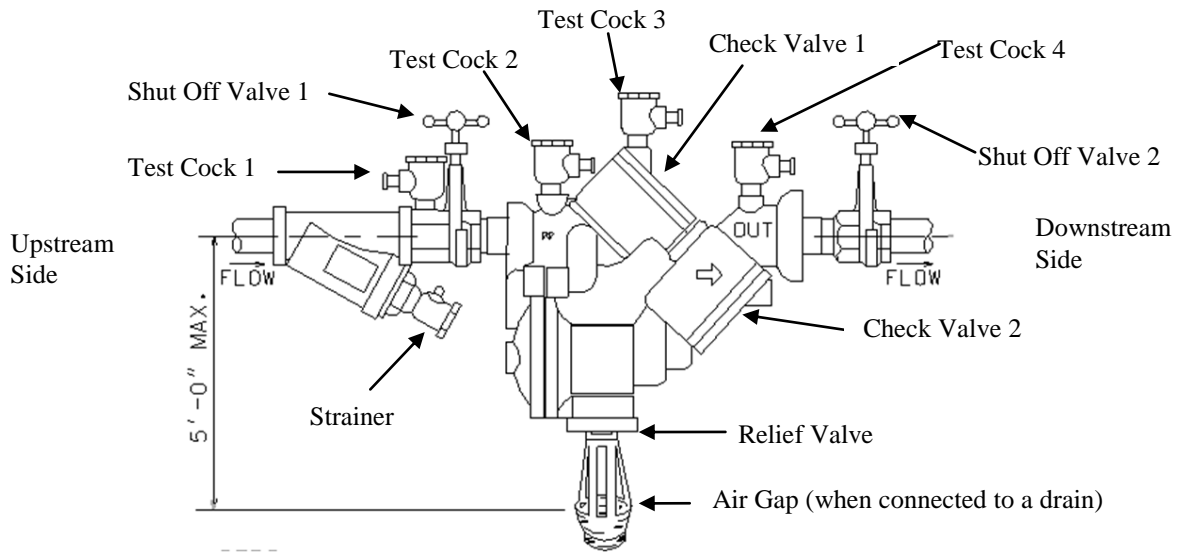
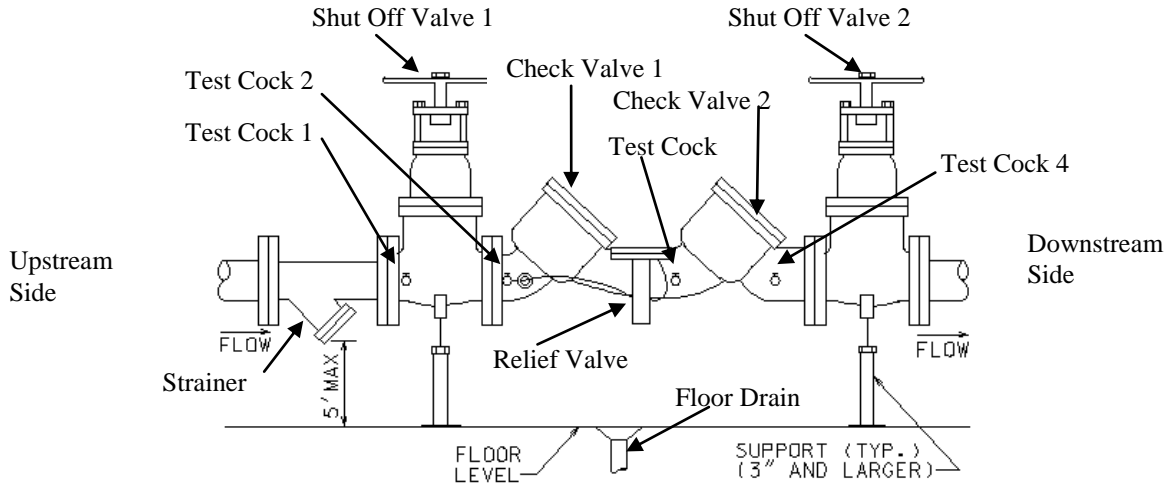
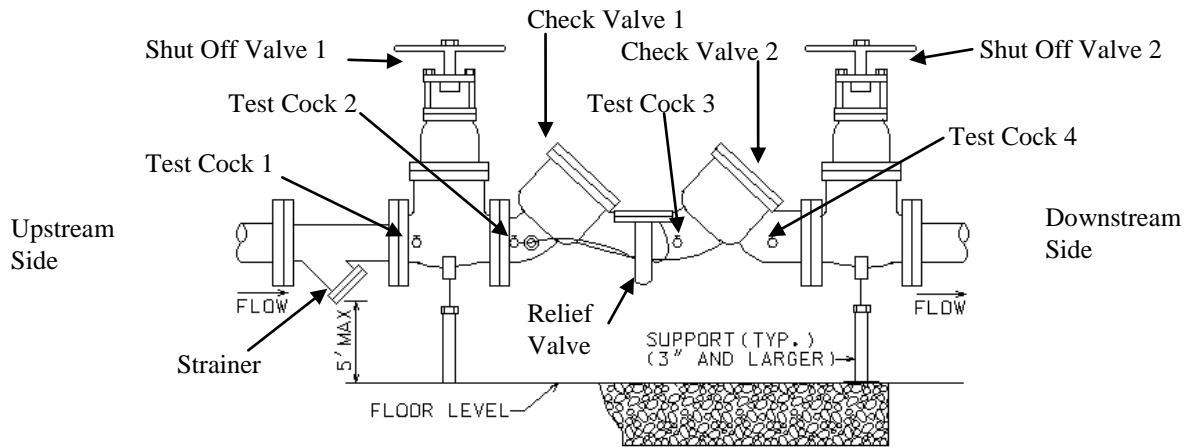

Figure 1-02519-a (RPZ, Size ¾" to 2" BFD)
Figure 2-02519-b (RPZ, Indoor Installation, Size 2 ½" - 10" BFD)
Figure 3-02519-c (RPZ, Outdoor Installation, Size 2 1/2" - 10" BFD)
Note: See Figures 1-02519-a through 3-02519-c for test cock locations.
- C. RPZ devices shall be installed in accordance with installation drawings of these specifications (See Figure 1-02519-a, Figure 2-02519-b, and Figure 3-02519-c) and according to manufacturers' instructions. Any variations in these drawings must have prior approval of the OWNER.